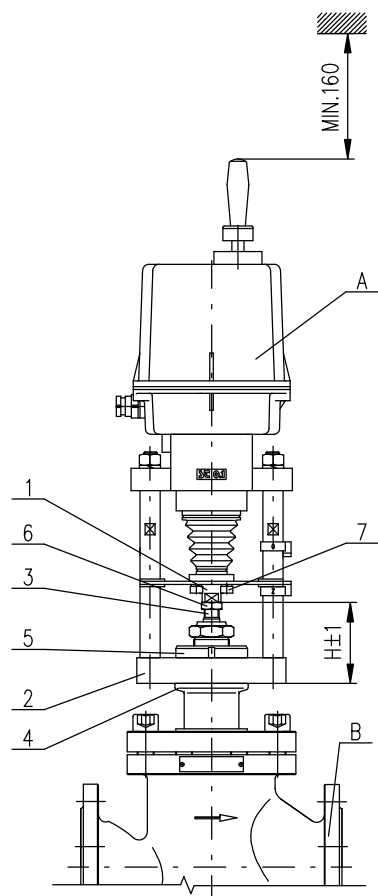

Fig.4
**Mechanical connection for versions with flange (Fig. 4)**